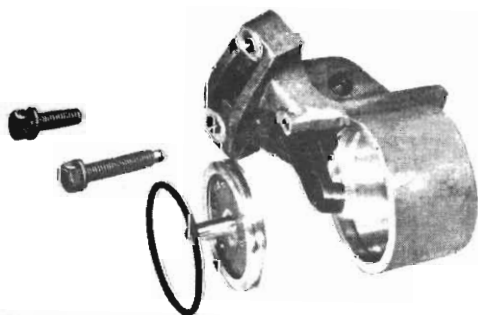

Fig. 41 - Low-reverse rear servo components
**(Refer Fig. 41)**
- (1) Remove the lever return "hairpin" spring by unclipping with fingers.
- (2) Suitably support the assembly, then carefully drive out the pivot pin from the housing.
- (3) Separate the lever, pin and housing.